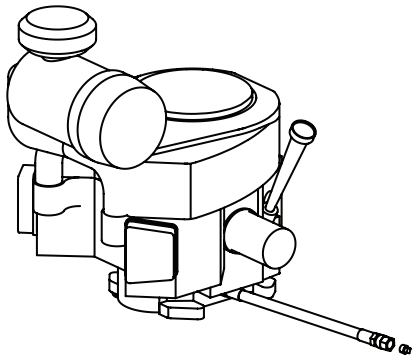

Fig. 20
2. Locate the oil drain hose on the engine (Fig. 20).
4. While holding the free end of the oil drain hose over the oil collection container, unscrew the square-head hose plug from the end of the hose (Fig. 20). Drain the engine oil into the collection container.